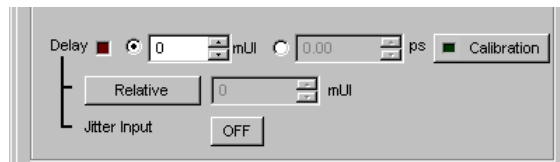

Figure 4.4.2-1 Clock delay setting items
- When executing jitter tolerance test, etc. by inputting jitter-modulated clock, set Jitter Input of Delay to ON to avoid malfunction of Delay caused by excess jitter modulation. (See Figure 4.4.2-1). When using the MU181000A/B (with Option 001 Jitter Modulation) or MU181500B, set Jitter Input of Delay to ON, and then set Jitter Modulation of the MU181000A/B or MU181500B to ON.